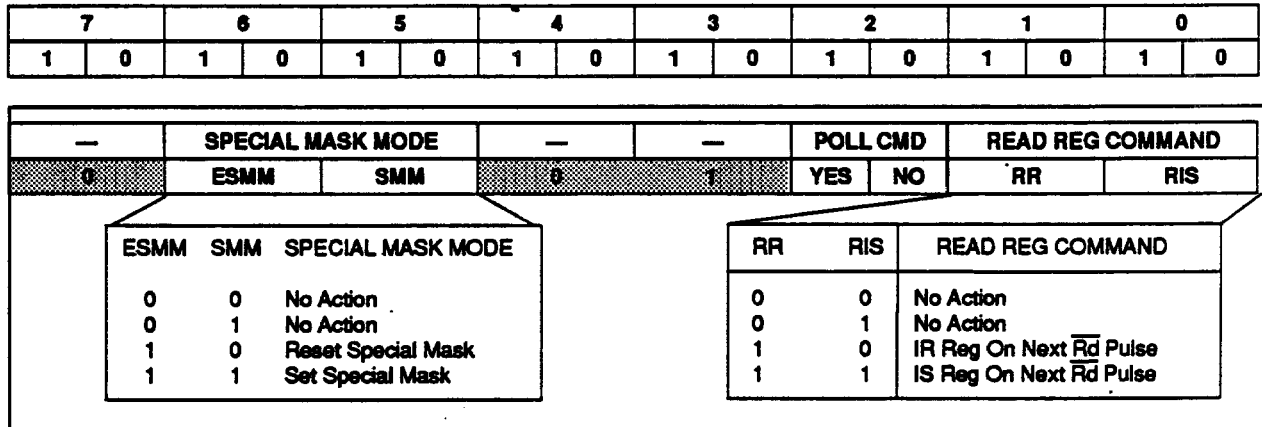

Figure 17. OCW3
Bits 5 and 6 program Special Mask Mode (SMM). Sets Bits 5 (SMM) and 6 (ESMM) to 1 to program SMM. Refer to Figure 17. If SMM is set to zero, it resets the controller to Normal Mask Mode. Polled Mode is enabled when Bit 2 is set to 1. Set Bit 1 (RR) and Bit 0 (RIS) to 0 to read the status of the ISR on SDO-SD7 at Address 020H or 0A0H. Set Bit 1 to 1 and Bit 0 to 0 to read the status of the IRR on SDO-SD7 at Address 020H or 0A0H.